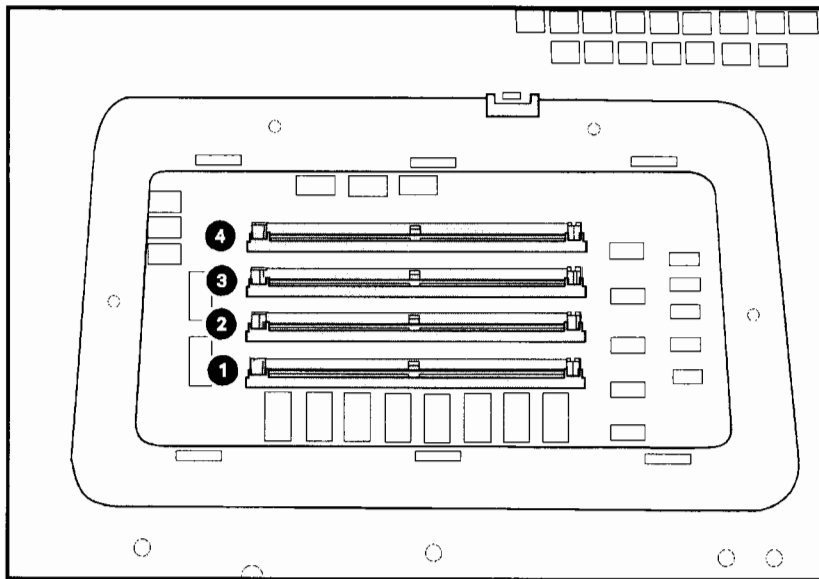
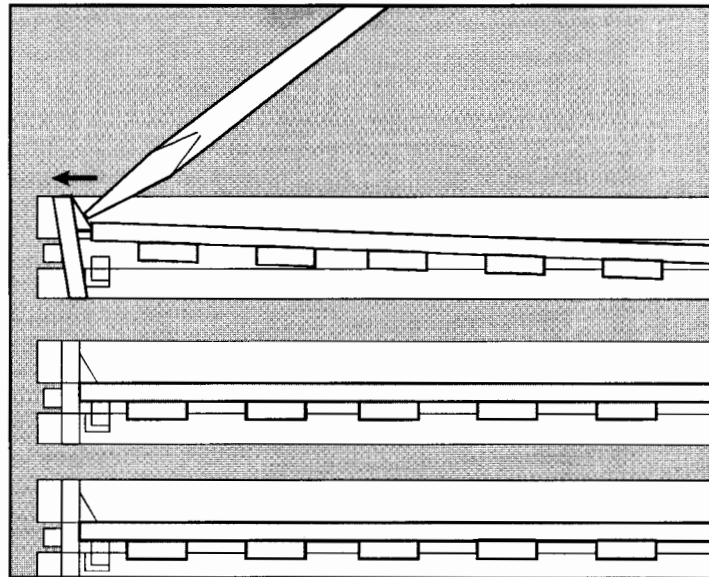

Figure 1-5. Locating the SIMM Slots
Figure 1-8. Removing the Board
Note that if you are installing both PostScript and memory boards, the PostScript board should be installed first and should be placed in the lowest slot, slot number 1 (see Figure 1-5).
10. Through the open panel you can see the four SIMM board slots (refer to Figure 1-5). When inserting boards, position them from the bottom slot (1) to the top slot (4), *installing the PostScript board first in slot 1*, then the eight Mbyte boards, then the four Mbyte boards, then the one Mbyte boards. *The PostScript board should only be installed in slot 1.*
2. Through the open panel you can see the four SIMM board slots (refer to Figure 1-5). Using your fingers, push against the two guides (clips) holding the board in place until the board releases from the clips. (If necessary, use a screwdriver to push *carefully* against the guides (clips) as shown in Figure 1-8.)